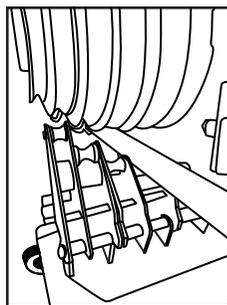
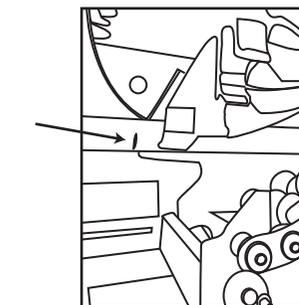

Fig 12
Fig 13
2. Use the Manual Bender Buttons (4) on front of bender or the Hand Pendant (12) to orient the shoe so that the hooks of the conduit type to be bent are at the 7 o'clock (approximately -5°) position on the analog protractor.
3. Ensure proper orientation of the Bending Shoe (1) by positioning the Gray hooks at the 7 o'clock position for EMT conduit or the Black hooks at the 7 o'clock position for IMC and GRC conduit.
4. Load the conduit into the appropriate sized Fixed Rigid Roller (10) and groove (Fig 12) so that the bending mark is aligned with the front edge of the hook as shown in (Fig 13).